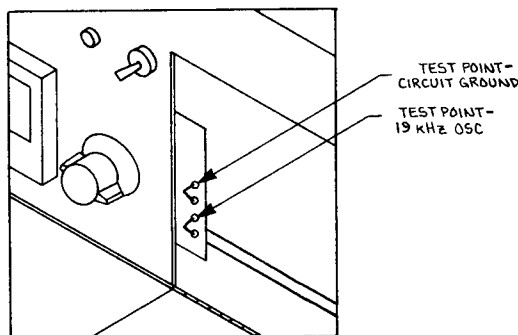

Fig. 6-1: Pilot Test Point
**6) Pilot Frequency:** This is most conveniently measured by opening the access door and connecting the frequency counter input across two terminals (Fig. 6-1) located on the P.C. card mounted on the rear of the rotary switch to the left of the access door opening.